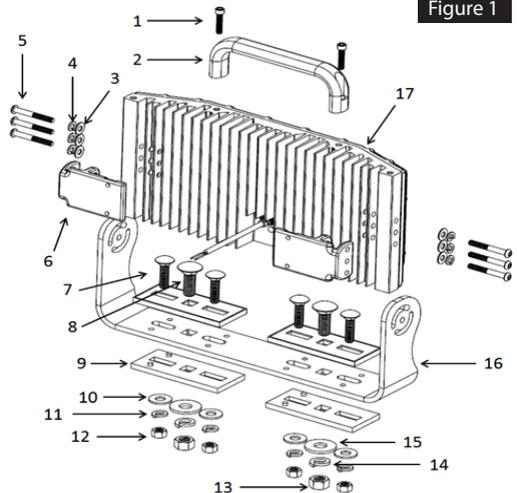

Figure 1
The mount bushings must be positioned into place before mounting the light to the bracket. Install hardware into the light as shown in Figure 1. Test your light to ensure proper function.
Install the vibration isolator (item 9) on the top and bottom of the Bracket (item 16) using the rubber studs to help with proper alignment. Position bracket onto desired mounting surface. Insert and secure hardware into the bracket as shown in Figure 1.